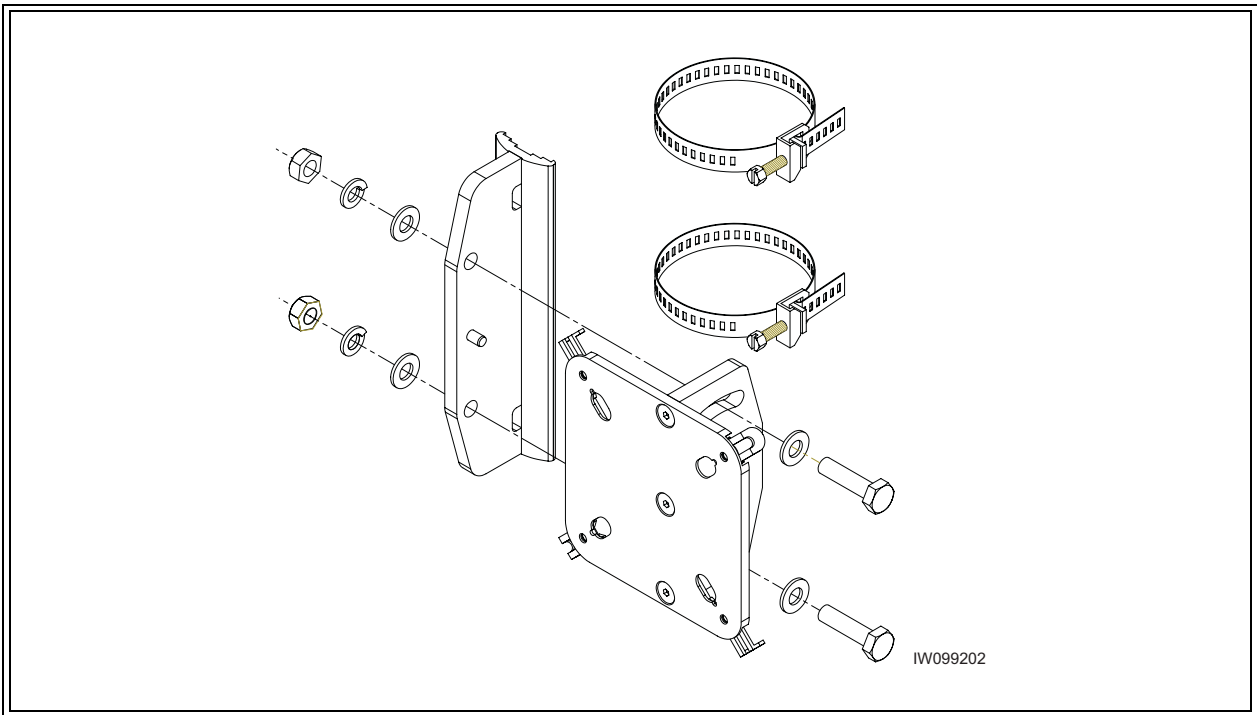

Figure 4-8 Adjustable Elevation Single Link CX Bracket
- A See Figure 4-8. Assemble the two steel band clamps to the pole mount bracket.
- D Assemble the rest of the bracket parts as shown in Figure 4-8. Use a level to ensure that the coarse elevation is 0°. Continue with Section 4-3.2.